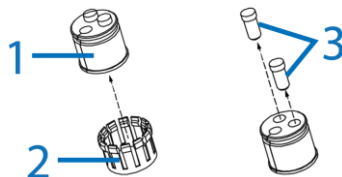

Figure 4
6. Remove the rubber insert (1) (Figure 4) from the plastic ring (2) (Figure 4).
7. Remove the two rubber plugs (3) (Figure 4) from the rubber insert. **WARNING: Do not remove the rubber plugs if you are not using them.**